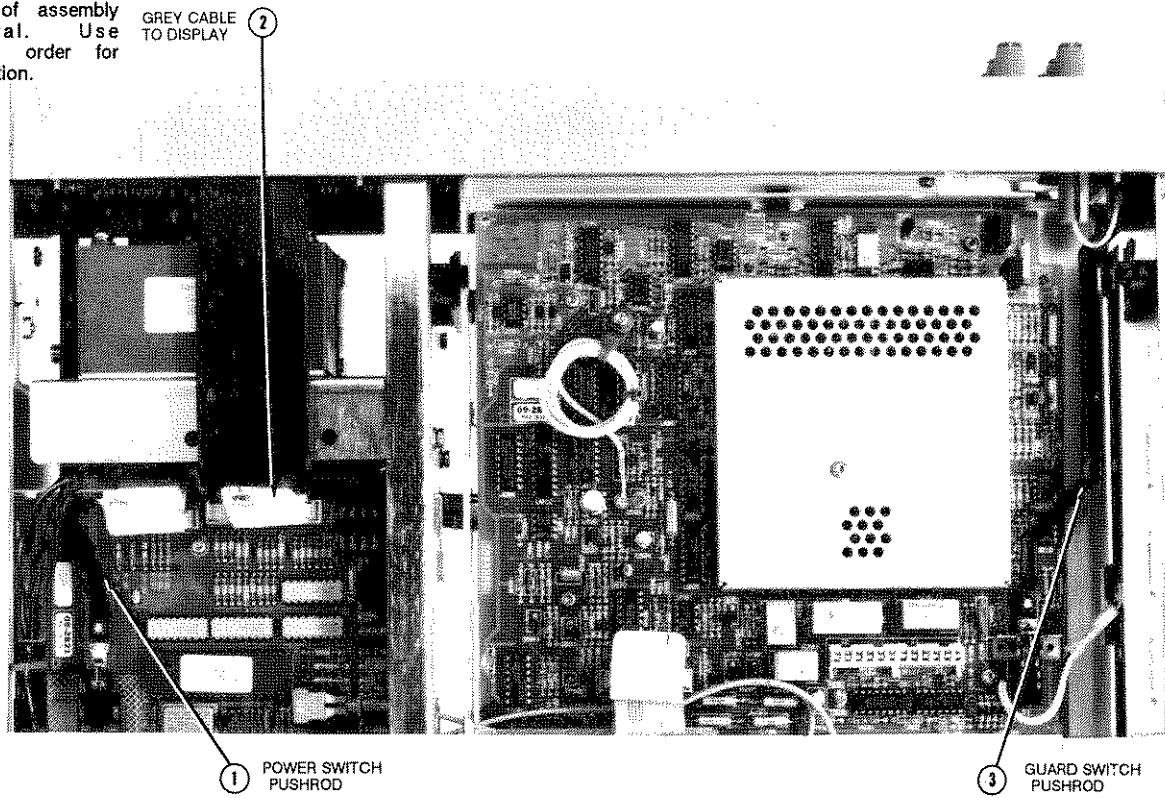

Figure 3-16. Guard and Power Pushrods, and Display Cable Locations
in Figures 3-16
3. Refer to Figure 3-16. Do the following:
15. Refer to Figure 3-16. Do the following: